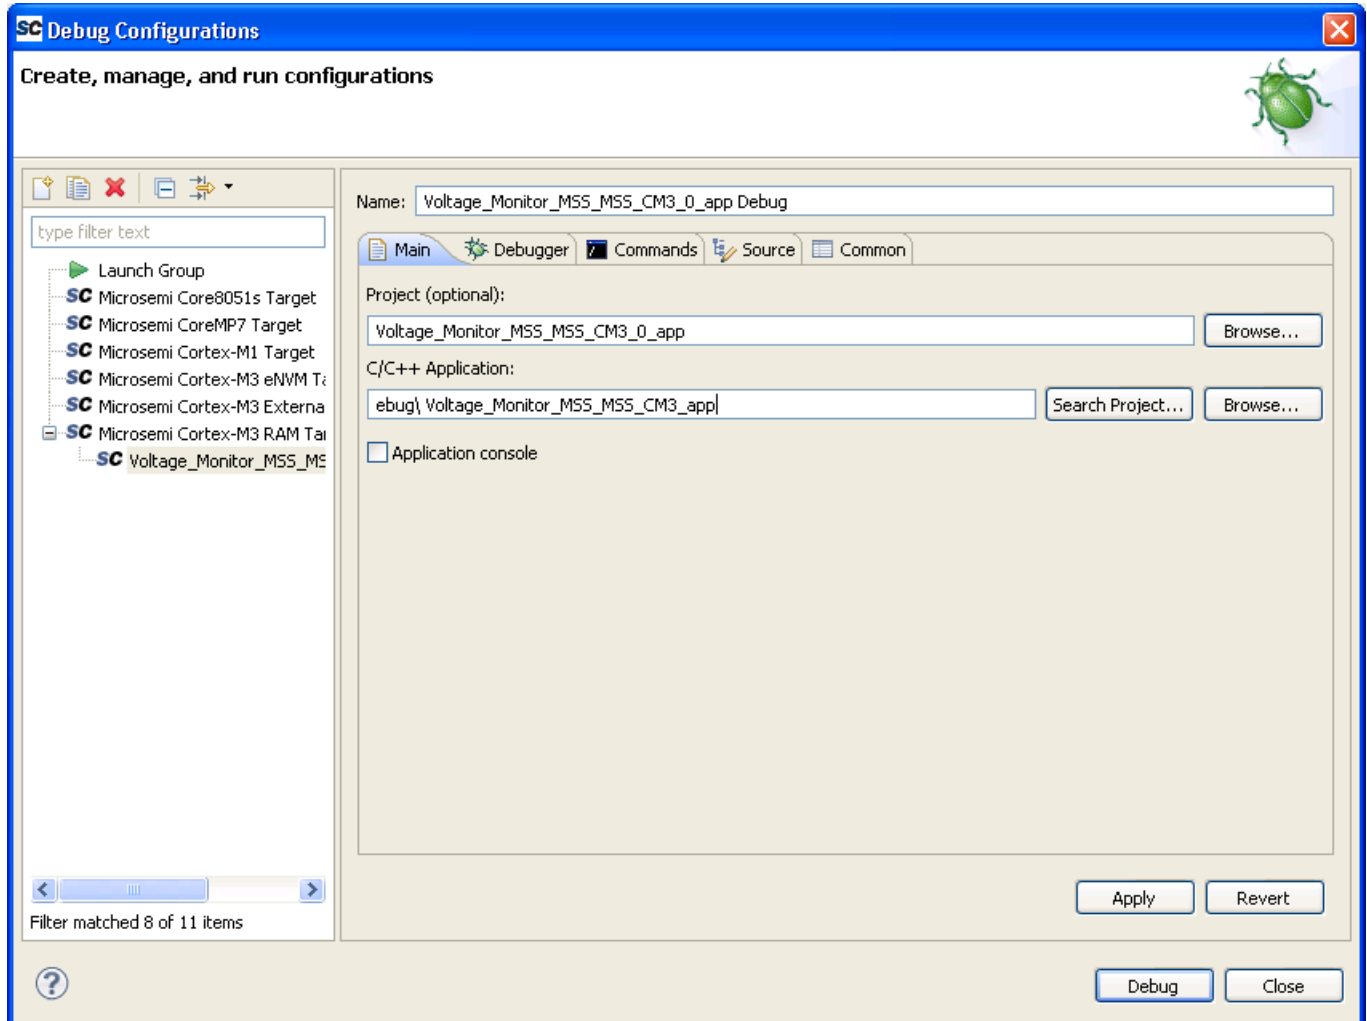

Figure 38 · Debug Window
2. Double clicking on **Microsemi Cortex-M3 RAM target** displays an image similar to Figure 38 . :